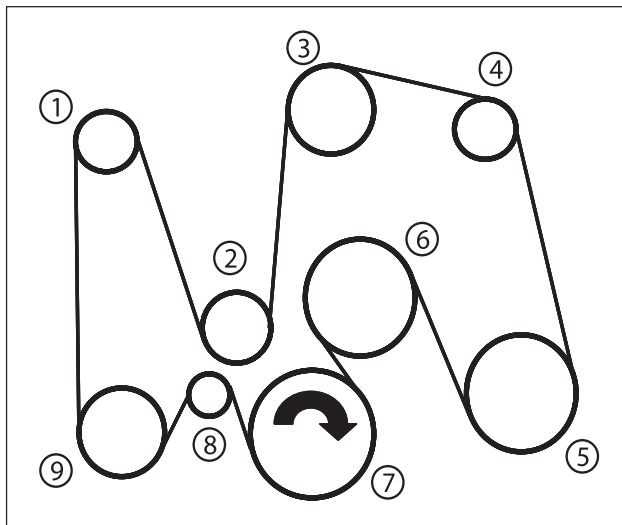

Fig. 12a
- b. To install the new drive belt supplied in the vacuum kit, route the new belt as shown in figure 12a. Create slack in the belt by using a 1/2 socket wrench on the tensioner pulley (8) and slide belt into place.